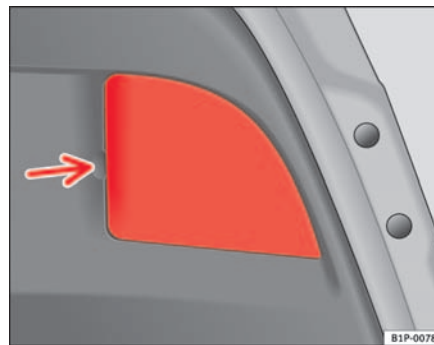

Fig. 163 Lights on the tailgate
- Pull the cover off. See the arrow ⇒ fig. 163.